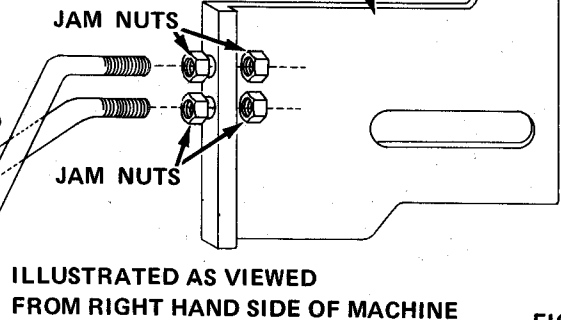
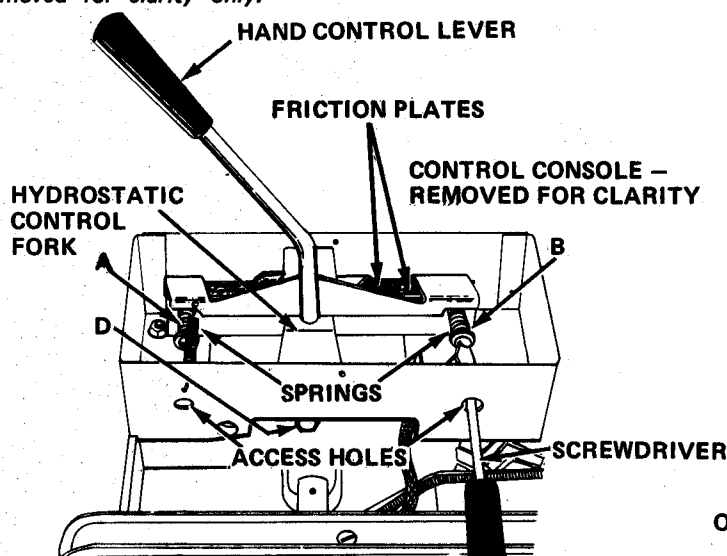

FIGURE 18
FIGURE 19
1. Oil the roller in the cam slotted plate shown in Figure 18 with a few drops of light oil every 25 hours of operation or monthly.
4. Loosen clamp bolt B, Figure 18 a sufficient amount to allow the cam follower to rotate. Turn the eccentric "clockwise" or "counter-clockwise" as required until the rear tractor wheels completely stop. Retighten clamp bolt B.
2. Loosen clamp bolt B, Figure 18 and rotate the eccentric until the flats on the eccentric are parallel to the cam slot as shown in Figure 18. Retighten bolt B. This will assure a maximum fine adjustment range.
3. With the control fork, Figure 19, move the cam, Figure 18, until the cam follower roller is lined up with the cam dwell center mark. DO NOT adjust the hydrostatic control fork, Figure 19, if the control lever is not in the neutral slot of the console. This is the final adjustment to be made.
5. Loosen pintle lever clamp bolt A, Figure 18, a sufficient amount to allow the pintle lever to move freely. Move the hydrostatic control lever, Figure 19, in the park-start position, start the engine and run at idle. Return the control lever to the neutral slot in the control console.
Check that the cam follower roller is lined up with cam dwell center mark. Move the pintle arm back and forth until wheels stop turning. Carefully tighten bolt A, Figure 18. The neutral adjustment is extremely sensitive and this procedure is a course adjustment. If, when bolt A is tightened, the wheels still move slowly, the fine tuning will be done in step 9.
7. Loosen (4) jam nuts on neutralizing plate, Figure 18, and depress neutralizer pedal completely, Figure 3. The cam follower roller, Figure 18, should remain in line with the cam dwell center mark. Snug (4) jam nuts up against neutralizer plate. Release pedal and securely tighten jam nuts.
8. Check the hydrostatic control lever. If the neutralizer pedal does not automatically shift the control lever to the neutral position from either "forward" or "reverse" when the pedal is fully depressed, loosen hydrostatic control fork adjustment bolt D, Figure 19. Move the fork so that it aligns with the neutral slot in the control console. Securely tighten bolt D.
9. If the wheels still move slowly when neutralized, increase the engine speed to full throttle. Loosen clamp bolt B, Figure 18 and adjust the eccentric roller until the wheels stop completely. Tighten clamp bolt B, Figure 18.
The hydrostatic friction plates, shown in Figure 19, must be adjusted so the control lever moves through the "forward" and "reverse" modes with a minimum of force. However, there must be sufficient spring pressure on the friction plates so that, under normal operating conditions, the control lever will remain at any selected setting.
If the tractor has a tendency to slow down or speed up without touching the control lever, it will be necessary to increase the spring pressure on the friction plates by tightening the screws at A and B, Figure 19. Access to these screws can be gained by raising the rear deck of the tractor and inserting a screw driver through the access holes as shown.
NOTE: The control console, see Figure 19, has been removed for clarity only.